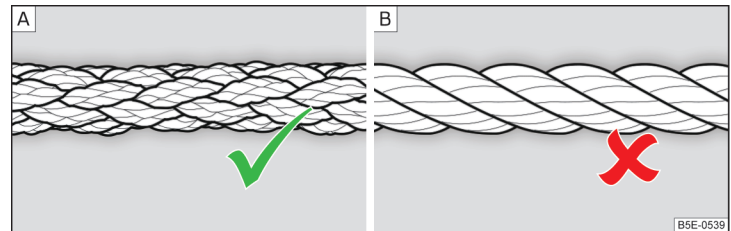

Fig. 238 Braided tow rope / Spiral tow rope
For towing using a tow rope, use only a braided synthetic fibre rope » Fig. 238 - **A** » **I**.
- Wound tow ropes must not be used for towing » Fig. 238- B, the towing eye may unscrew out of the vehicle - risk of accident.